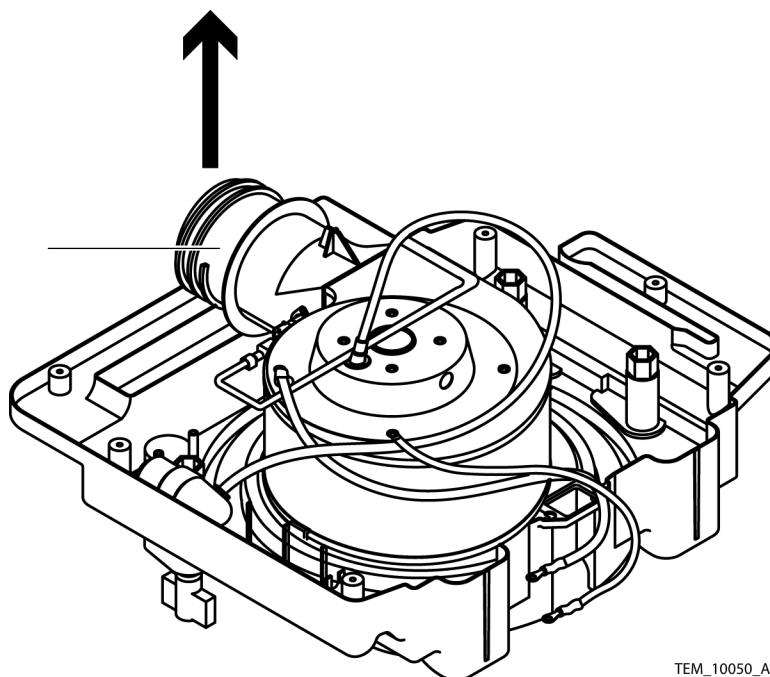

Figure 5-43. Duct Adapter Removal
5. Lift the duct adapter assembly out of the rear cover assembly. See Figure 5-43, item 1.